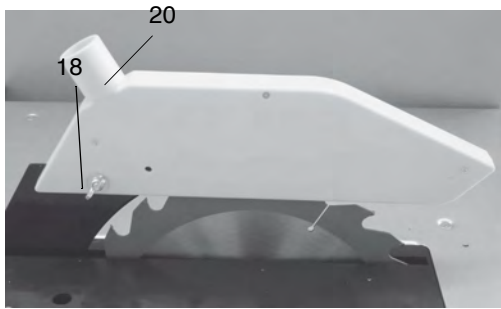

Fig. 24: Mount cover
Step 3: Fit the cover (20) with round head screw M 6 x 25, washer 6 and wing nut M6 to the splitting wedge (18) (Fig.24).